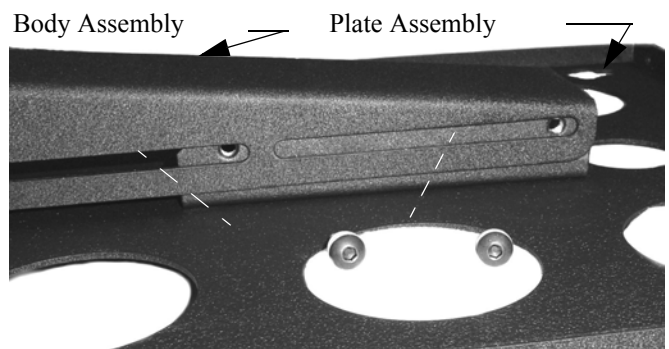

Figure 2. Assemble Body to Plate
3. Using four 5/16-18 button head cap screws and four washers, secure the body to the plate assembly (see Figure 2).